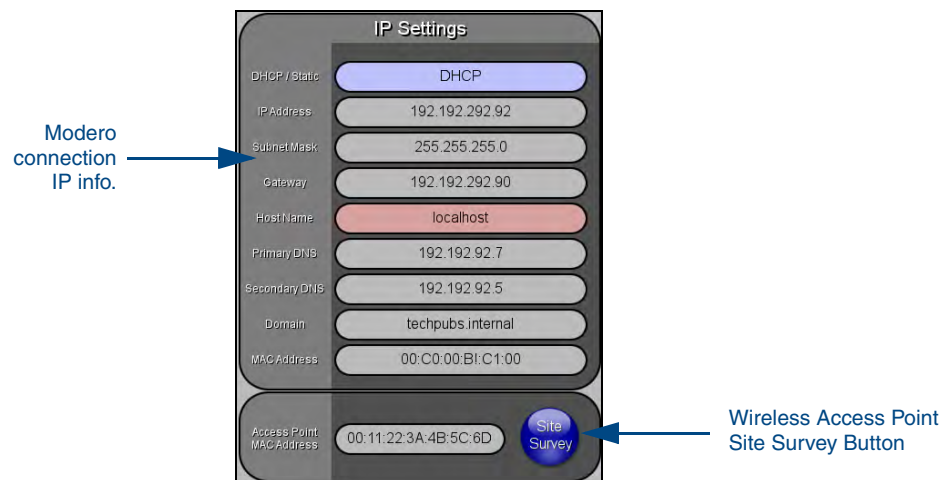

FIG. 15 Wireless Settings page (IP Settings section)
1. Select **Wireless Settings**. Wireless communication is set within the IP Settings section of this page (FIG. 15).
1. Press the **Wireless Settings** button (located on the lower-left) to open the *Wireless Settings* page. Wireless communication is set within the *IP Settings* section of this page (FIG. 15).